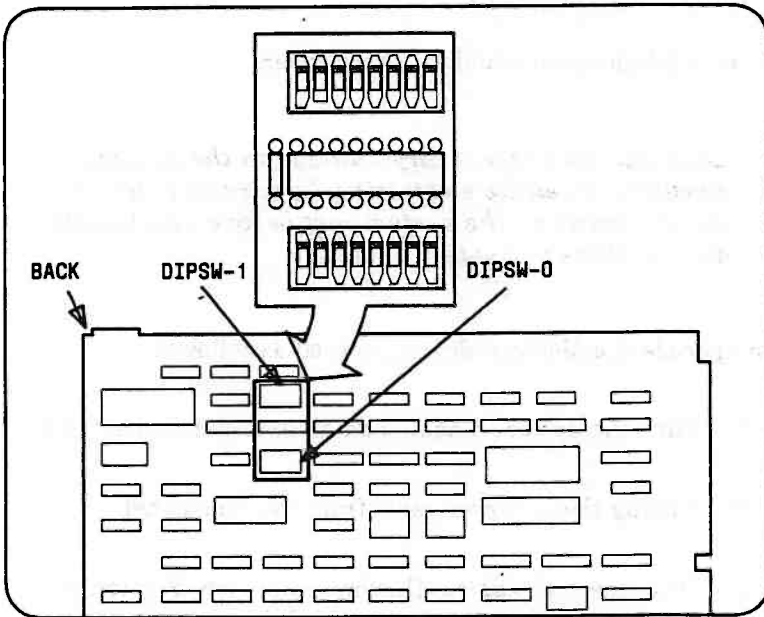

Figure 3-14. Locating DIPSW-0 on the Motherboard
8. Locate DIPSW-0 on the Motherboard (Figure 3-14).